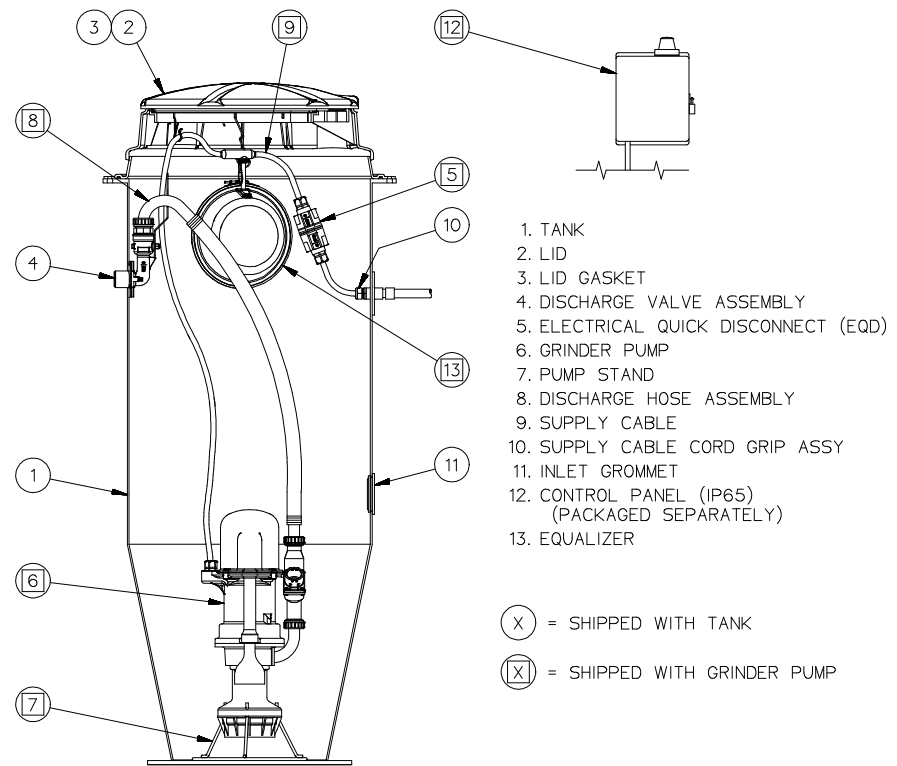

Fig. 1 - Station Components
1. Station Unpacking (Refer to Figure 1)